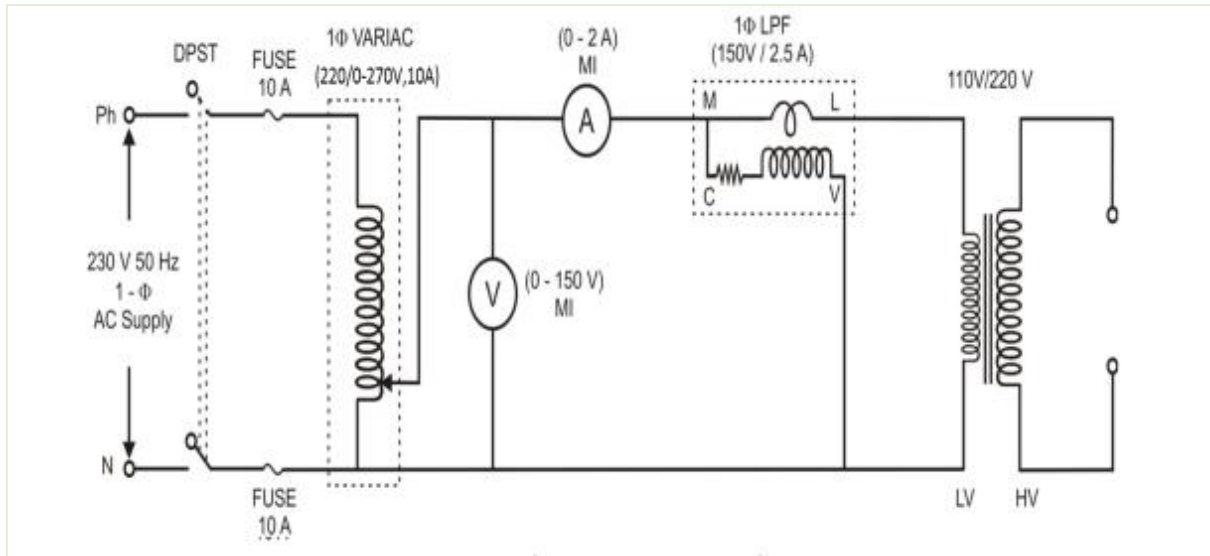

Figure 1 - Open circuit test Circuit
1. From the Open circuit characteristics calculate the open circuit voltage and determine the performance using OCC from Figure 1.